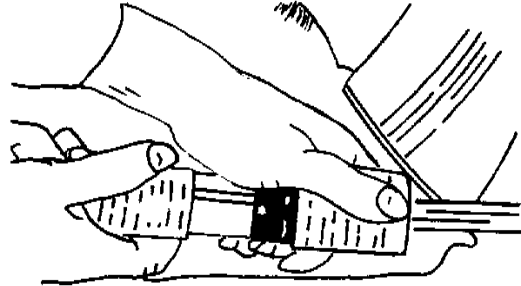

Figure 5
This machine must be connected to the electrical ground to protect the operator from electric shock. The machine has a power cord with two main conductors and one earthing conductor. Connect the plug to the type of receptacle shown in figure 5. The green and yellow conductor cord is the ground wire. Never connect this wire to any terminal other than the ground terminal.
2. Make sure the control switch is in the "Off" position then connect the supply cable to an appropriately grounded fused circuit. Connect the supply cable to the motor pigtail. (Figure 5)